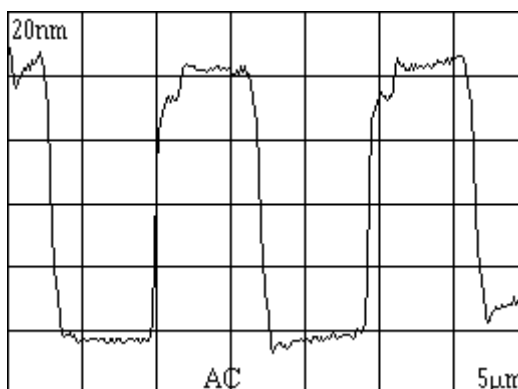

Figure 3-1. Topography signal of test sample grating
Step 10 View the Topography signal on the oscilloscope. It should be a square wave as shown in Figure 3-1. If you do not see this pattern, move the tip to another part of the sample until you do. To move the tip, either use the Offset function, or use the z direction pad to lift the tip and then move to a new location on the sample. Then approach the sample again.